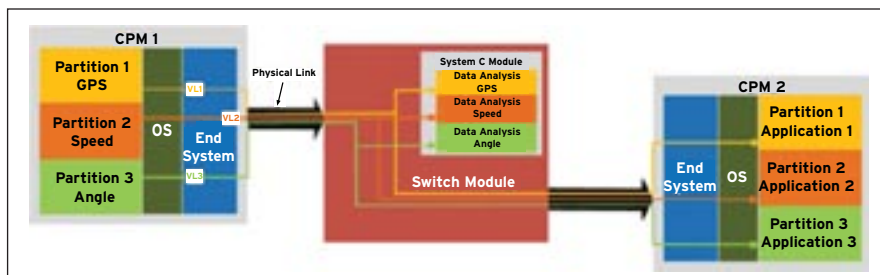

Figure 1. Embedded Simulation Methodology
Figure 1 presents the basic methodology. We consider an avionic architecture featuring core processing modules (CPM) implementing several applications and generating data traffic and avionics switch modules (ASM), which route data packets to their destination CPM.
As an example, CPM1 in Figure 1 features three partitions, each one hosting an application dedicated respectively to GPS, speed, and angle estimation. Through an ARINC664 communication End System, data generated by these applications are sent through several Virtual Links (VL) of the data network. While performing data traffic management, the ASM also implements a simulator that runs a timed model of the expected communication traffic, considering the OS and network parameters. The ASM is the privileged place to implement a simulator since its CPU only manages message traffic and has available time.